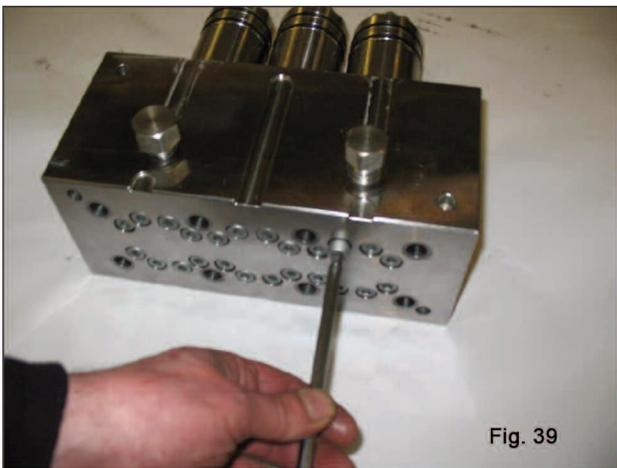
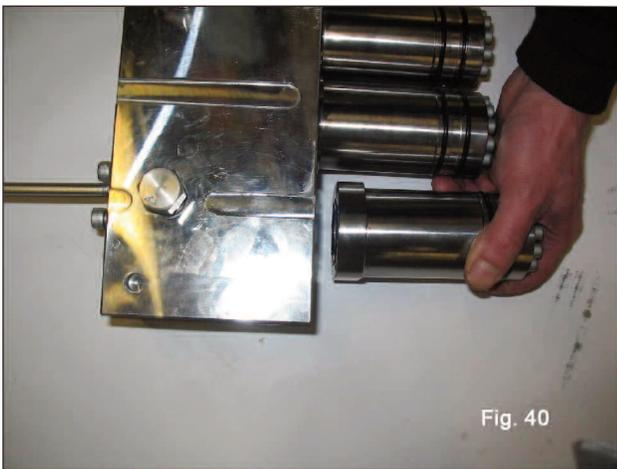

Fig. 39
Fig. 40
- Take out the M8 x 100 screws fastening the liners to the head as shown in fig. 39 and proceed as shown in fig. 40.